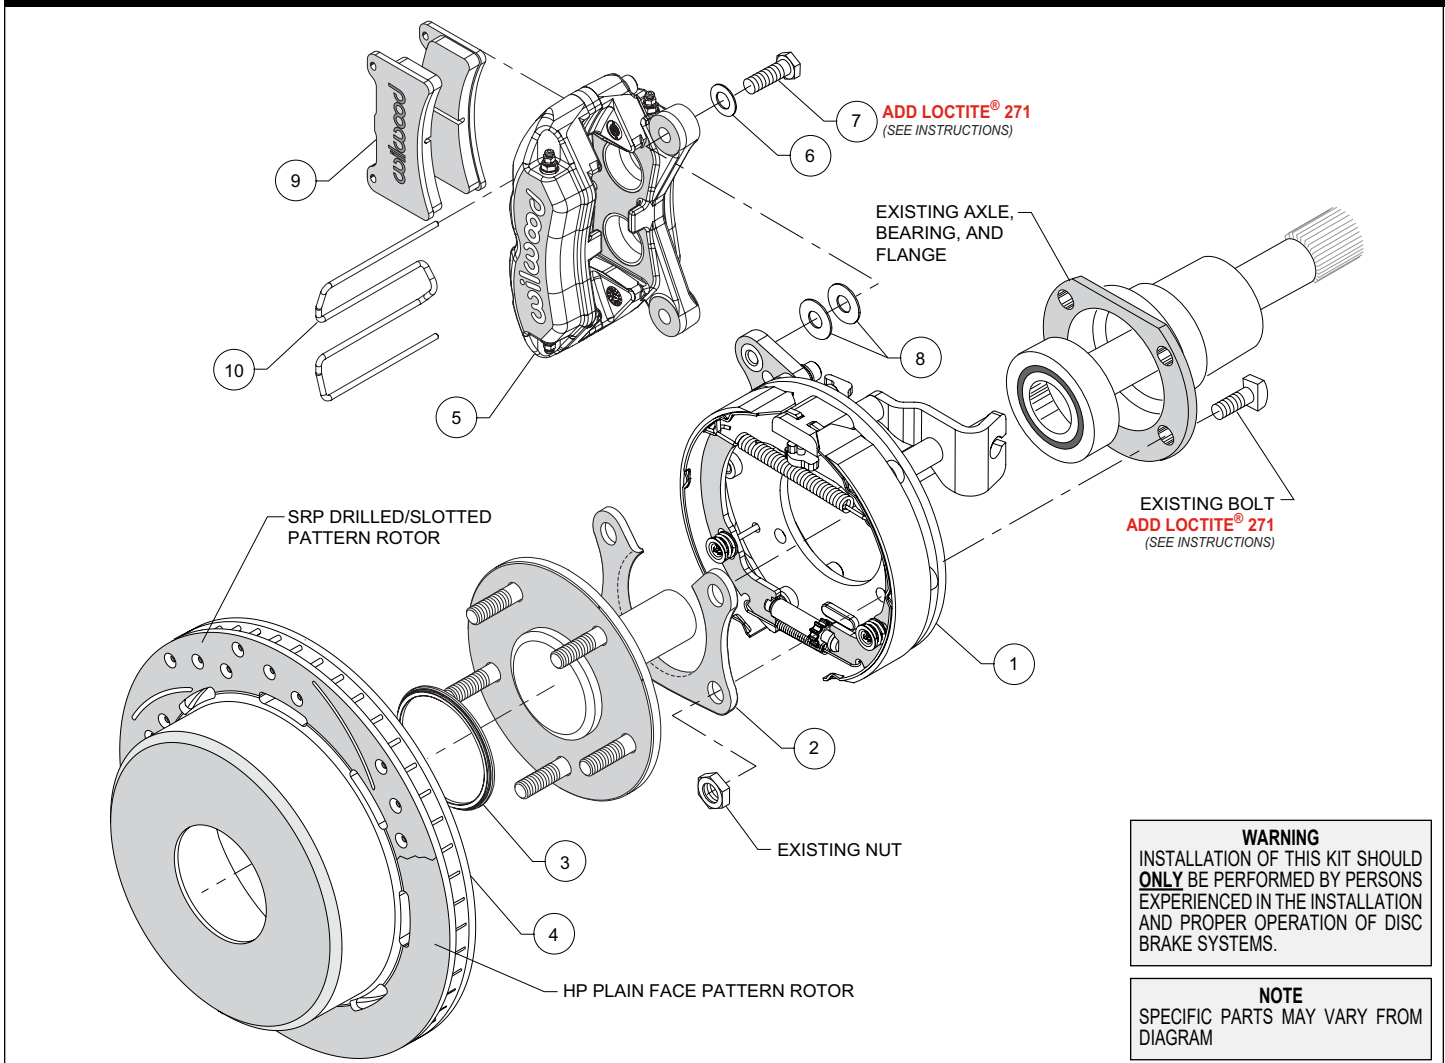
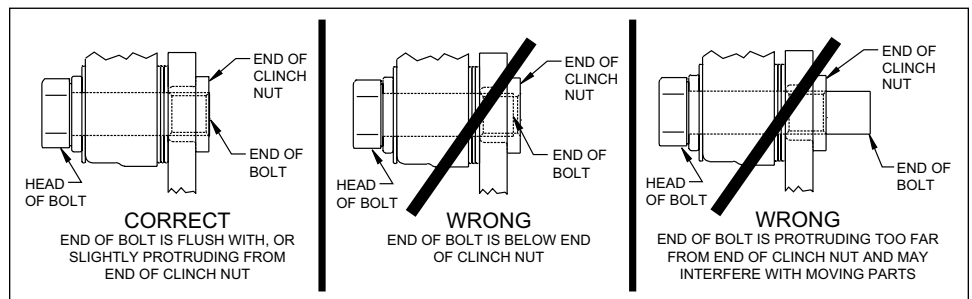

Figure 1. Typical Installation Configuration
Figure 5. Clinch Nut Engagement Diagram
NOTE: Numbers in parenthesis refer to the parts list and Figure 1 on the preceding pages.
CAUTION: All mounting bolts must fully engage clinch nuts. Be sure to check that all bolts are either flush or protruding through flanged side of clinch nut after shimming, Figure 5.
- Orient the bracket assembly (1) as shown in Figure 1 and Photo 1 and slide it onto the axle. Insert the axle and bracket into the axle housing. Ensure that the bracket assembly backing plate fits flush against the axle housing flange.
- Install the bearing retainer (2) with the opening pointing upward and the lip facing inward (toward the bearing), as shown in Figures 1 and 4, and Photo 2. Secure retainer and bracket assembly to the axle housing flange using the Original Equipment Manufacturer (OEM) bolts and nuts, Figure 1. Apply red *Loctite*® 271 to the OEM bolt threads and torque to OEM specifications.
- Slide the rotor registration adapter (3) onto the axle register on the axle flange with the smaller O.D. facing toward the rotor/hat (4), Photo 3. **NOTE:** Verify axle stud size and pattern. Then have a qualified machine shop drill the bolt circle of the hat/rotor to the correct stud size and pattern. Slide the hat/rotor into place, Figure 1 and Photo 4. **NOTE:** The rotor/hat must fit flush against the axle flange or excessive rotor run out may result. Install three lug nuts (finger tight) to keep the rotor/hat assembly in place while continuing with the installation.
- NOTE:** Please reference the caution statement at the beginning of the assembly instructions. Mount the caliper (5) onto the caliper mounting bracket (1) using bolts (7) and washers (6), as shown in Figure 1. Initially place two .035" thick shims (8) on each bolt between the caliper and the bracket, Photo 5. Temporarily tighten the mounting bolts and view the rotor (4) through the top opening of the caliper. The rotor should be centered in the caliper, Photo 6. If not, adjust by adding or subtracting shims between the bracket and the caliper. Always use the same amount of shims on each of the two mounting bolts. **NOTE:** The end of each bolt must be flush with or slightly protruding from the head of the clinch nut, as shown in Figure 5. If necessary place spare shims between washer (6) and caliper mounting ear to achieve the proper clinch nut engagement. Once the caliper alignment and clinch nut engagement are correct, remove the bolts one at a time, apply red *Loctite*® 271 to bolt threads, and torque to 40 ft-lb.